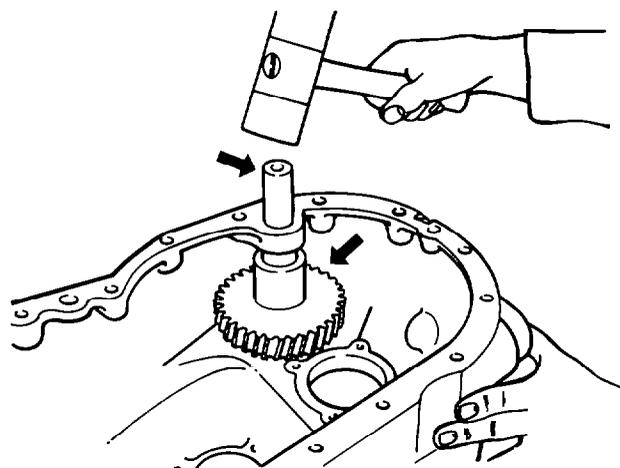

Figure 44 Reverse Idler Assembly
- (1) Position the reverse idler in the gearbox casing so that the idler shaft can be installed; install the idler shaft; a soft headed hammer may be used to drive the shaft fully home (see Fig 44).
- (2) Fit the main gearbox casing to the casing for the epicyclic gear assembly (refer to para 42).